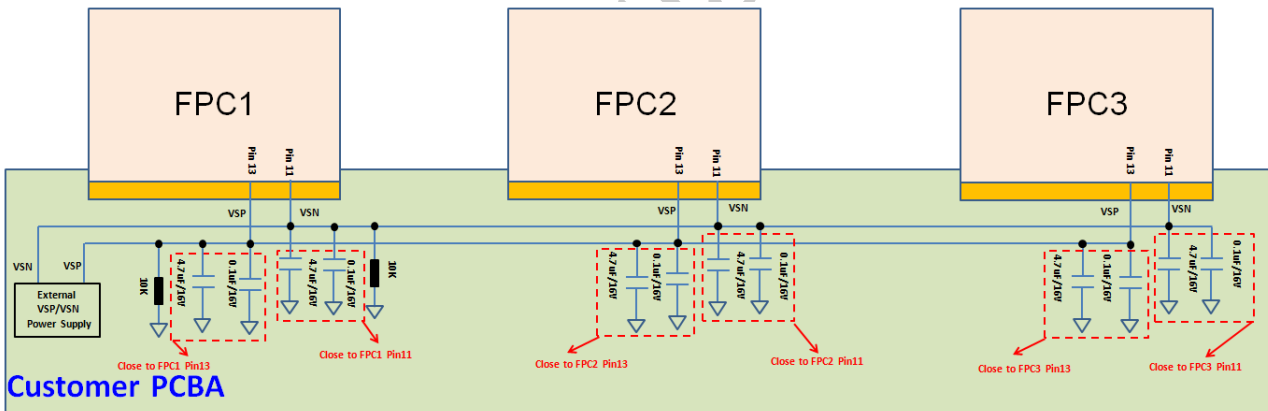

Figure 10: Cascade design with external Power Supply (VSP/VSN)
- (3) The VSP/VSN voltages are provided by external power (Figure 10) ;
- (4) The capacitors of VSP/VSN need to be as close to FPC1 as possible (Figure 10) ;